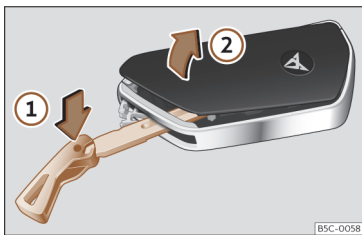

Fig. 66 Vehicle key: open the battery compartment cover.
- Insert the key blade into the slot >>> Fig. 66, press it in the direction of arrow ① and detach the cover by levering it ②.